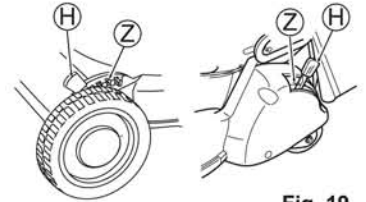

Fig. 19
2. Lean the mowing height adjustment lever (H) toward the wheel side, separating from the notches (dents) (Z). (See Figs. 19 and 20)